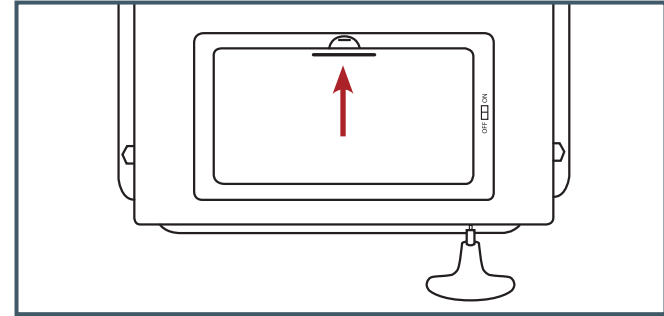

Fig. 3
1. Remove battery enclosure cover by lifting up the finger-hold indentation. (Fig.3)